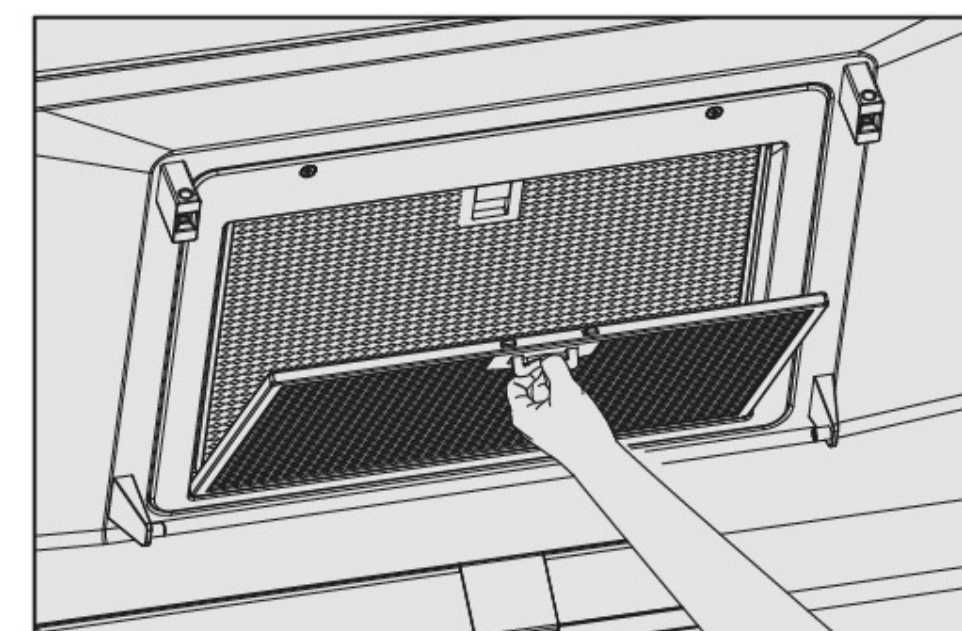

Fig.7
- (3) Restore the plain net component to the original state of installation according to Figure 7.